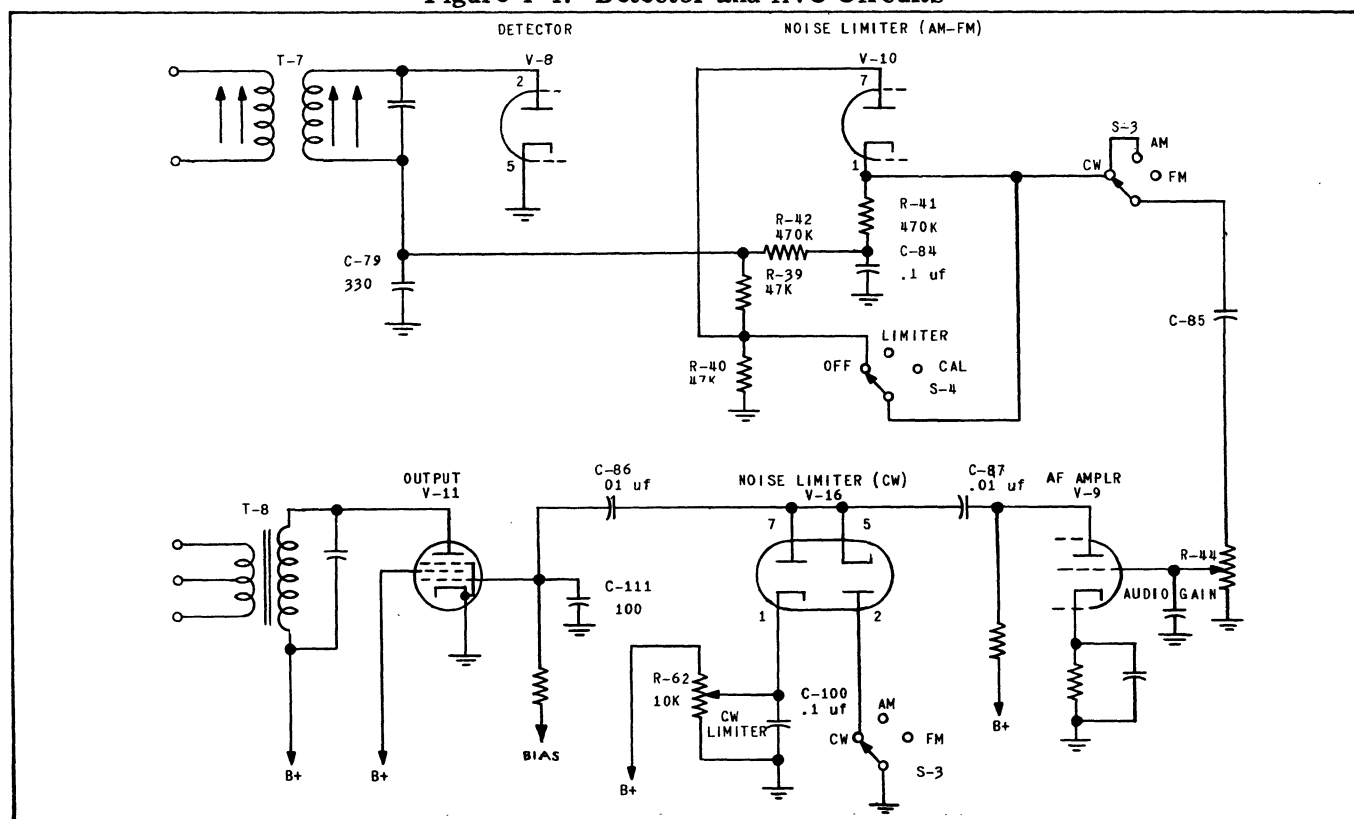

Figure 4-5. Noise Limiters and Audio Amplifiers
b. **NOISE LIMITERS** (see figure 4-5). The 75A-3 employs separate noise limiters for AM and CW. The AM noise limiter automatically adjusts its clipping level according to the strength of the incoming signal. The clipping level of the CW noise limiter is adjusted by means of a knob on the front panel.